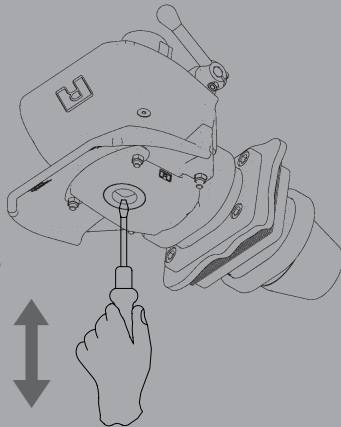

Fig. 8
- Maximum vertical play on coupling pin (see Fig. 8) is **max. 5 mm**